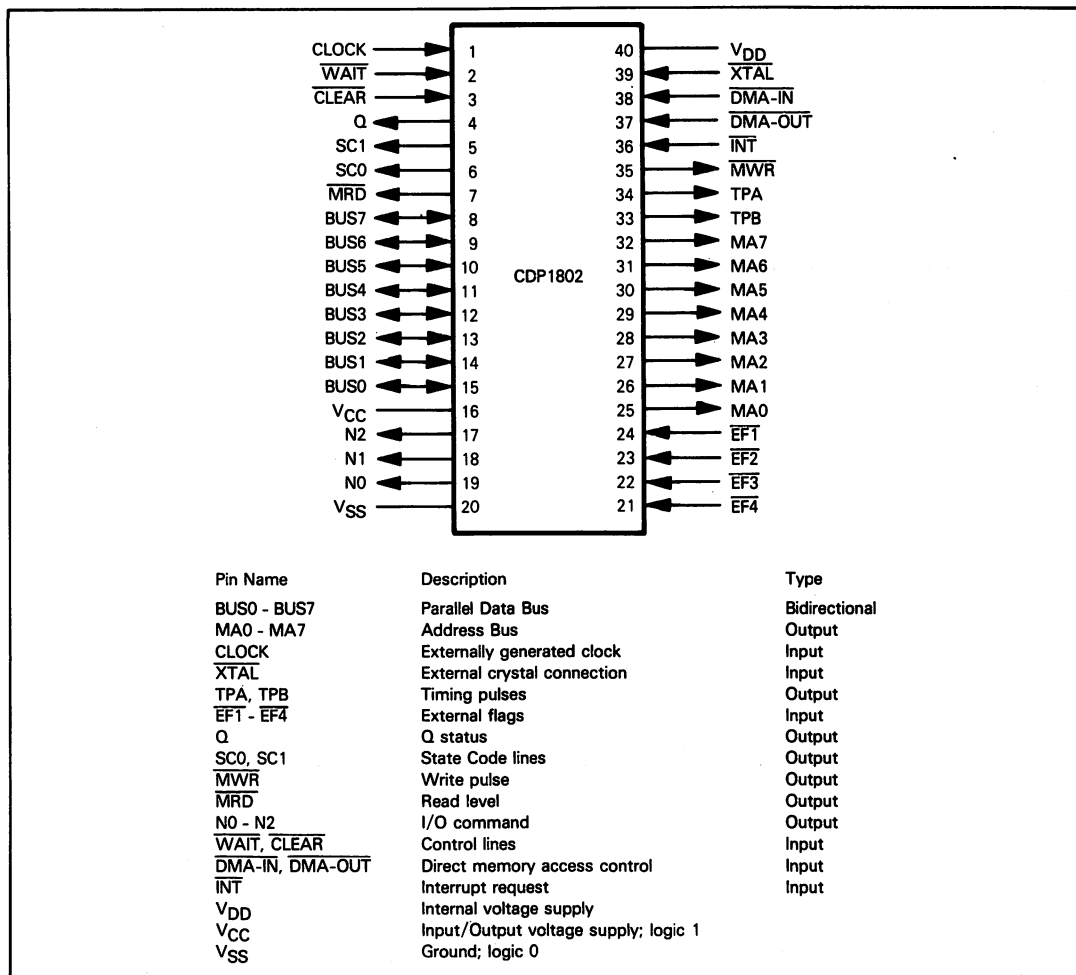

Figure 12-2. CDP1802 COSMAC CPU Signals and Pin Assignments
**COSMAC CPU pins and signals are illustrated in Figure 12-2. A description of these signals is useful as a guide to the way in which the COSMAC microprocessor works. Signal names in Figure 12-2 conform with those used by COSMAC literature.**